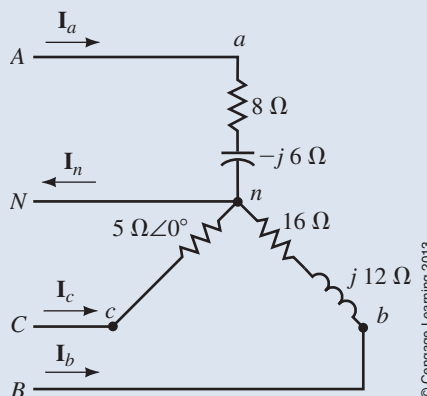

FIGURE 24–37
- One of the problems with unbalanced three-wire Y systems is that, because you get different voltages across each phase of the load, you get a voltage between neutral points. To illustrate, using KVL and the results from Example 24–16, compute the voltage between neutral points n and N of Figure 24–35.
- For the circuit of Figure 24–37, $\mathbf{E}_{AN} = 120 \text{ V} \angle 0^\circ$. Compute the currents, power to each phase, and total power. *Hint:* This is actually quite a simple problem—you do not need to use mesh analysis.